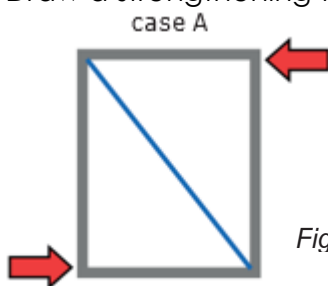

Figure 10
5. Why does the frame keep its shape in case A but changes shape in case B? Hint: Think about the type of forces acting on the diagonal beam? (1)
6. How can you improve the design of the frame so that forces cannot make it skew? (1)
7. Draw a strengthening technique on figure 10 by adding an extra brace. (1)
8. What do you call this strengthening technique? (1)
9. Can you use steel cables instead of beams for the braces in the frame designs of fig 8 and fig 10? Explain your answers. (1)
10. If you use steel beams as braces for both frame designs, do you have to use the same thickness beams in both designs? Or can you save material and use thinner braces in one of the designs? (1)